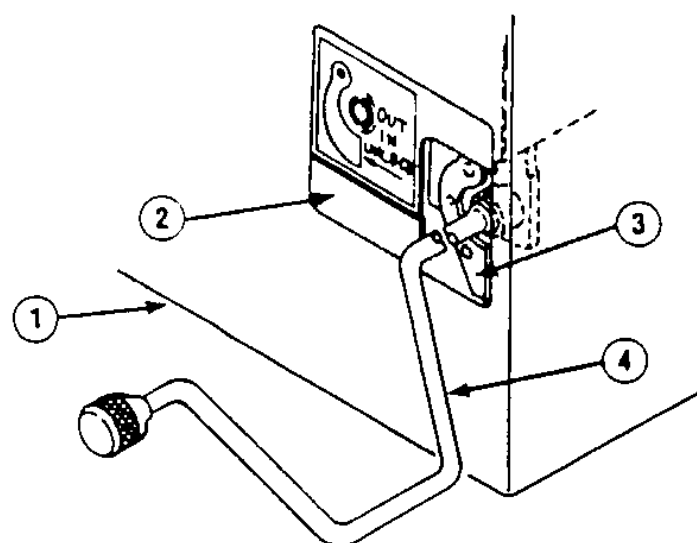

Fig. 4 — Method of Racking Circuit Breaker
Engage racking crank (4, Fig. 4) and push racking unlocking lever (3) to left, then rotate racking crank counterclockwise only until resistance to motion is felt (DO NOT FORCE). If closing springs were left in the "charged" condition, they will automatically discharge.
To rack circuit breaker to "TEST" position, push racking unlocking lever (3, Fig. 4) to left, rotate racking crank approximately 1/4 turn clockwise, then release unlocking lever. Continue cranking until racking mechanism automatically stops at "TEST" position.